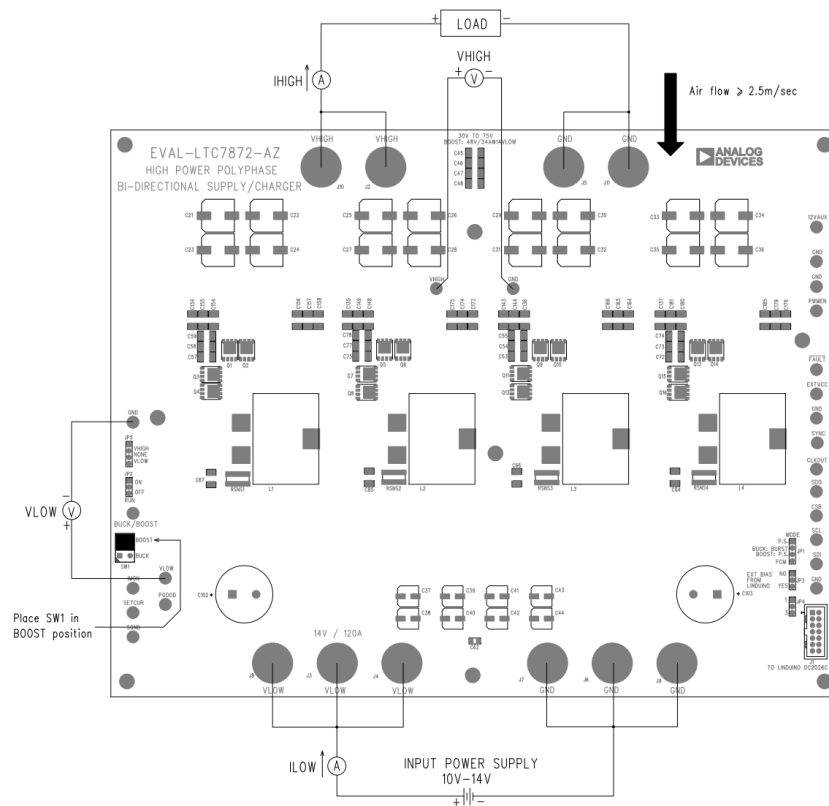

Figure 2. Measurement Setup for Boost Mode
1. See the measurement setup in Figure 2 for Boost mode.